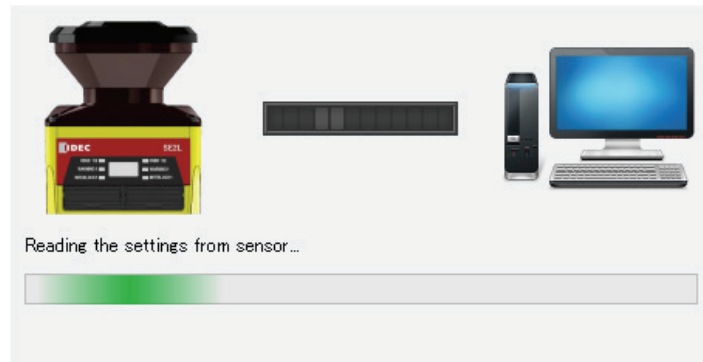

Figure 7-55 Reading the configuration of SE2L
- b) Select Load settings on the sub panel window. Progress panel will appear (Figure 7-55) showing the state. If this button is clicked without connecting the SE2L a dialog box will appear to read settings from the SD card (refer to section 7.9.1).